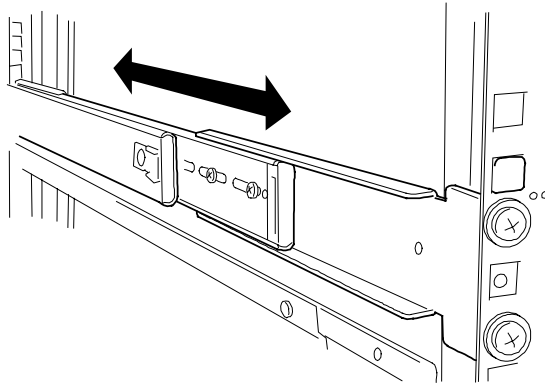

Figure 2-7. Adjusting the Slide Rails
**Note:** The screws in the oblong slots of the outer slide rail may need to be readjusted and tightened. See Figure 2-7.